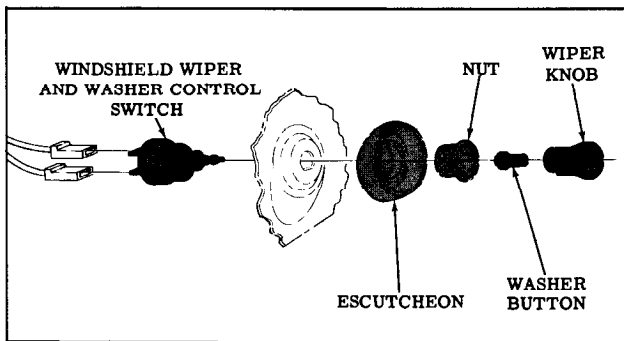

Fig. 12-9 Wiper Control
2. Remove wiper control knob by removing set screw. With Tool J-6592-01 remove nut, escutcheon and control. (Fig. 12-9)